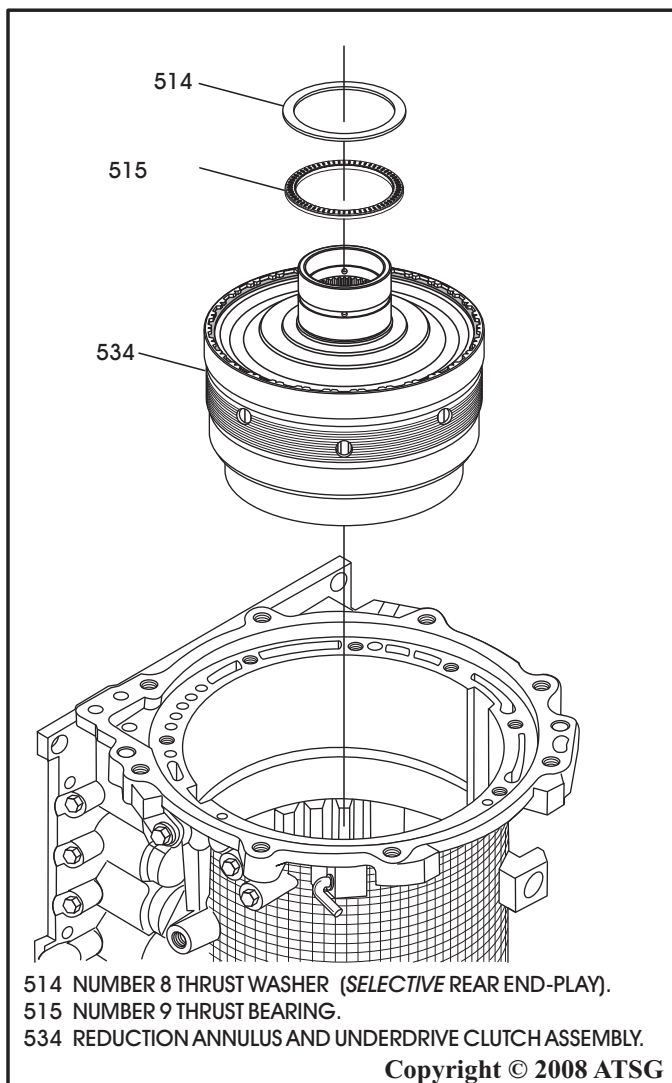

Figure 59
1. Remove the number 8 selective thrust washer, as shown in Figure 59.
2. Remove the number 9 thrust bearing, as shown in Figure 59.
3. Remove the reduction annulus and underdrive clutch assembly, as shown in Figure 59, and set aside for the component rebuild section.